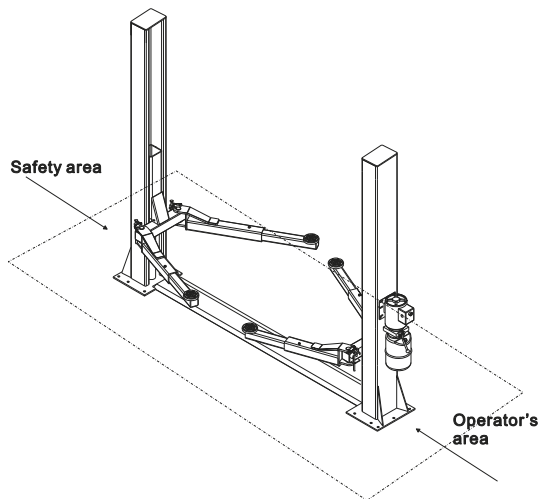

Fig. 10 Working Area
- ◆ People rest inside the safety area while the vehicle raising. (**Fig. 10**)